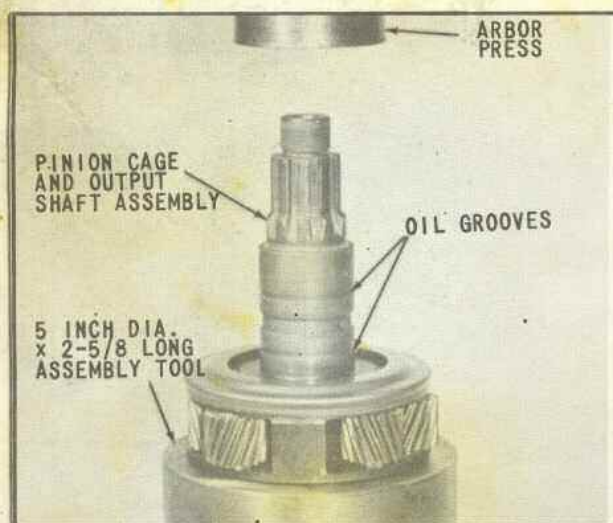

Fig. 103 Pinion Cage and Output Shaft Assembly with Oil Grooves
18. Pinion cage and output shaft assembly has been supplied with three oil grooves around the shaft diameter as shown in (Fig. 103). This shaft can be used to replace any shafts. However, shafts without the grooves must not be used with those forward and reverse transmission cases supplied without the 71-28B bushings.
19. Two versions of the transmission case have been supplied; one includes bronze bushings for the output shaft journal, the other is designed for use without the bushings. These two versions of the transmission case are completely interchangeable, except that the case without bushings cannot be used with the output shaft assemblies which do not have the oil groove (Fig. 103). Information regarding the service replacement of case bushings can be found on page 59, (Fig. 111). If it becomes necessary to replace a case of the design without bushings because of worn journals, it can be returned to your engine supplier. He can return the case to Warner Gear for reoperation and installation of bushings and can furnish information concerning the cost of this service.